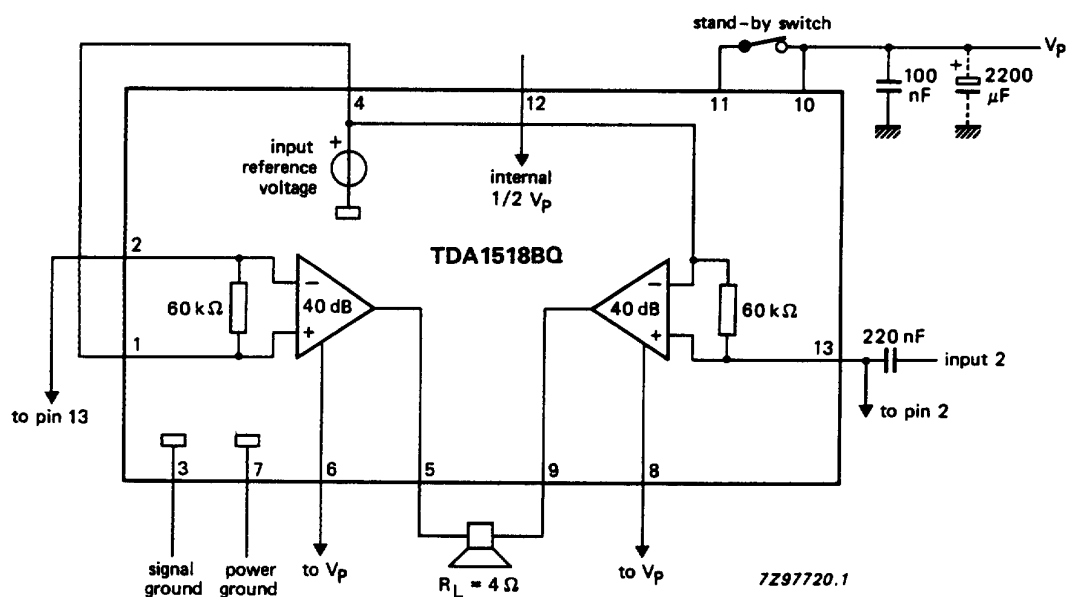

Fig.4 BTL application circuit diagram (without bootstrapping).
11. All characteristics, for BTL application are measured using the circuit shown in Fig.4.